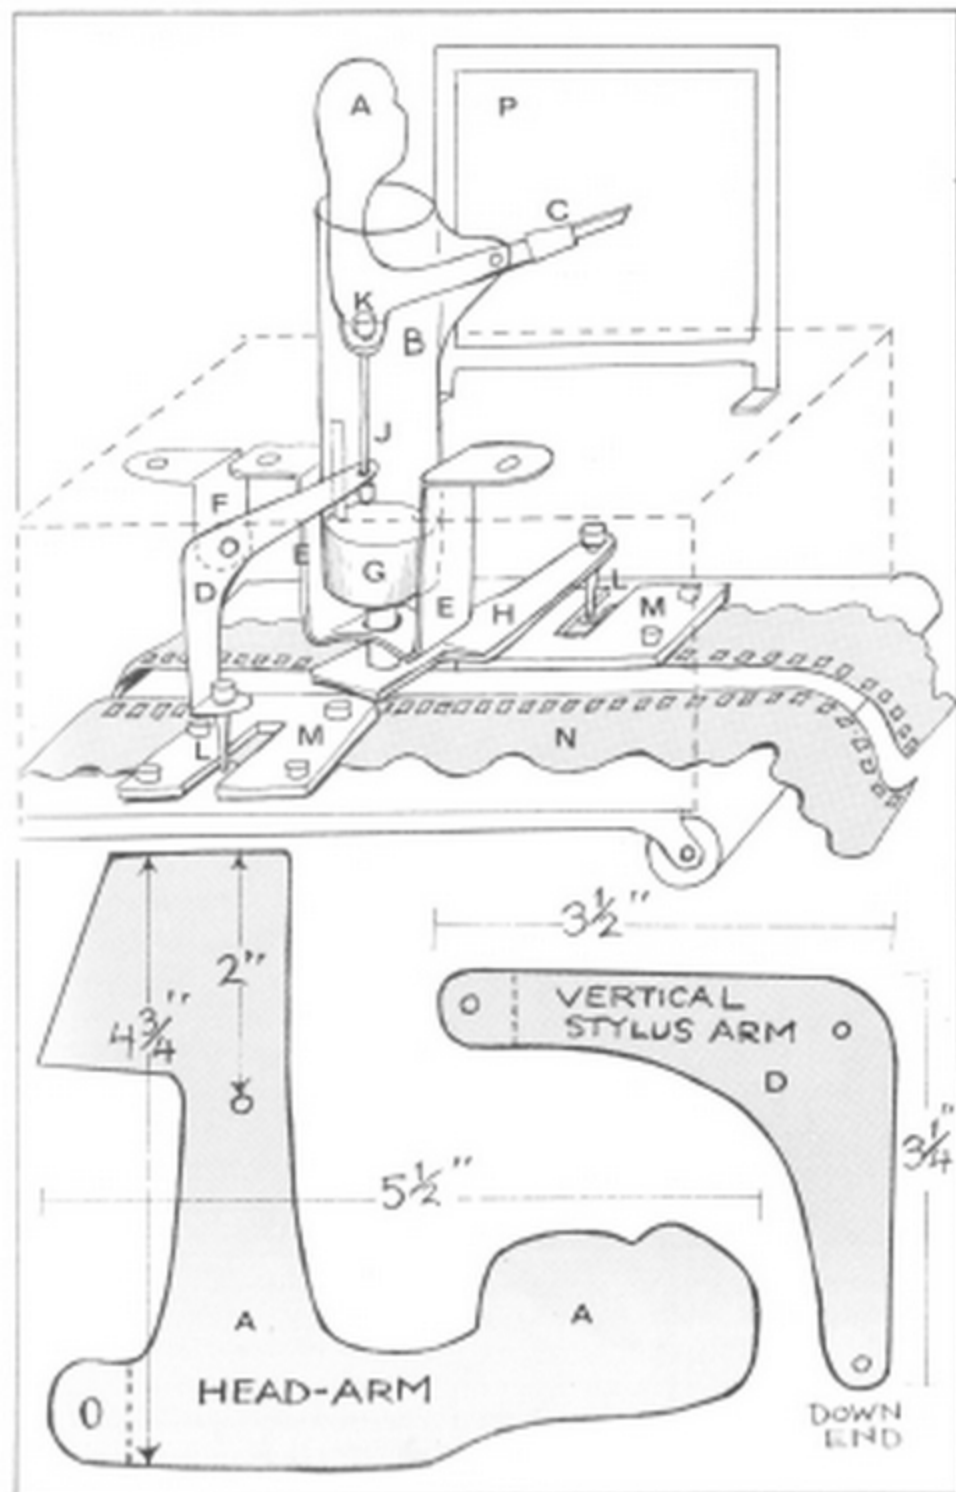
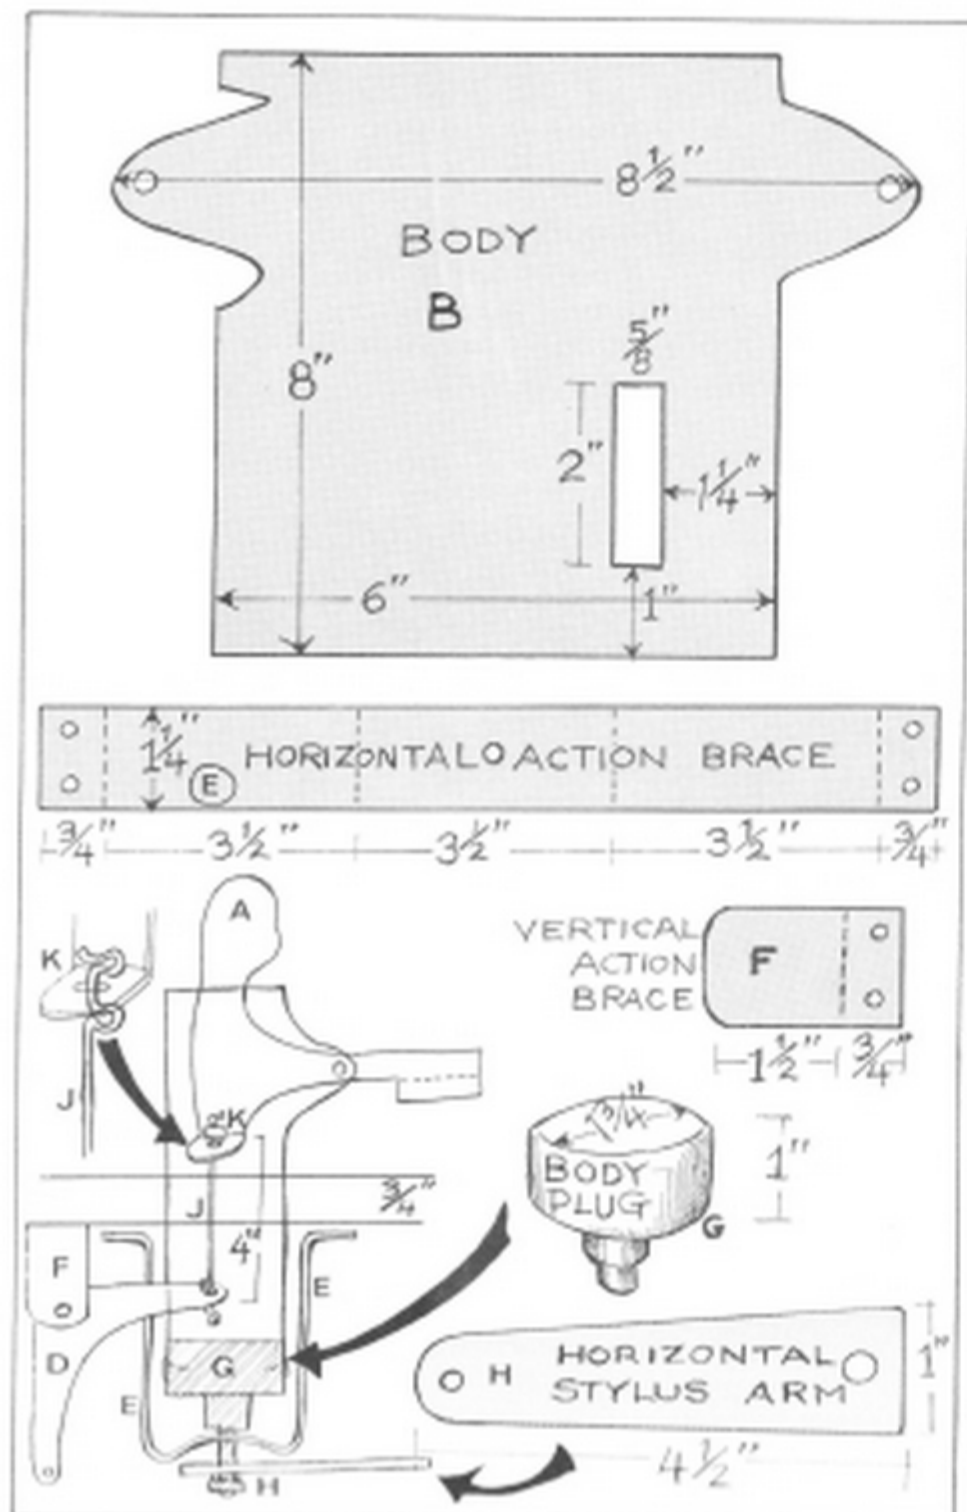

Figure 24
Figure 25
Study Figures 23, 24, and 25. (The mechanism in Figure 24 is more elaborate than necessary. It includes a means of "automatically" driving the machine with strips of 35 mm film (*N*) pulled by hand or by hand crank. This part of the machine can be left out, as we shall see.)
As shown in Figure 23, the basic mechanism centers on a tubular body thrusting up through a hole in the platform. Installed in the body (refer to Figure 24, *B*) is the head-arm piece (*A*) with a felt-tipped pen at its arm end (*C*). This head-arm piece is connected inside the tube at point *K* with a lift rod (*J*). *J* is attached to the vertical stylus arm (*D*). The stylus arm exits from the tube through a slit and swivels on a machine bolt that attaches it to the vertical action brace (*F*). When moving vertically—up and down—this stylus arm influences
Thus, by a combination of vertical and horizontal movements, the pen can be made to write or draw on the easel (P). Straight up-and-down and side-to-side strokes are easy; circles take a more practiced coordination of the two directions of movement. The stylus arms are most easily moved by hand. They can be made to move with the film mechanism (Figure 24, L, M, N), but direct manual manipulation is much easier to achieve and perfect.
First, prepare the aluminum parts by drawing them on paper. Follow the shapes and dimensions indicated in Figures 24 and 25 (*A, B, D, E, F, and H*). Carefully cut out the paper templates, arrange them on the sheet aluminum, and draw their outlines with a fine felt-tipped pen. Keep the dimensions as faithful to the originals as possible. Use light emery paper to sand the edges smooth; then use a hand or leather punch, or a drill, to make the various holes.
Prepare the lift rod (*J*) from a length of medium-gauge wire or wire from a coathanger. Use needle-nosed pliers to prepare both ends of the wire, as shown in Figure 25 (*K*) so that it will exert force at point *K*, whether pulled upward or downward by the vertical stylus arm (*D*).
Attach the lift rod (*J*) to the head-arm piece at point *K* (refer to close-up detail of this in Figure 25). Next, bend the body sheet into its tubular form and slide it into the 2" hole in the platform. From this point on, you will have to work with the tubular body in position in the slab hole, because once the lift rod is attached to the stylus arm, you will not be able to insert the body through the hole.
Next, bend the horizontal action brace (Figure 25, *E*) on the four broken lines to form the bracket shape shown in Figure 24. Drill out a center hole, then install it up against the middle dowel of the body plug (*G*) so that it supports the bottom of the tubular body. Screw or bolt it to the underside of the platform slab, as shown in Figures 23 and 24.
The horizontal stylus arm (Figure 25, *H*) can now be attached to the lower dowel of the body plug (*G*) by compression of a screw in the end of the dowel or with epoxy glue. It must be firmly and permanently attached. When the arm is moved, the tubular body will be twisted, imparting a left-right direction to the pen above.
You are now ready to install a felt-tipped pen at the end of the arm (Figure 24, *C*). Wrap the aluminum tab around the pen and, if necessary, secure it with a length of surgical tape.
Next, install the easel (*P*) on the platform in the position shown in Figures 24 and 26. Glue, tape, or tack a sheet of absorbent paper (not slick or coated) to the easel. The easel's legs should be secured with small jewelry box hinges, that will allow the easel to lean toward the automaton body and pen. A light spring or rubber bands should be attached to the front of the easel to cause it to lean toward the pen. The amount of tension in the spring or rubber bands will have to be adjusted with practice. If there is too little tension, the pen will not make marks on the paper; if there is too much tension, the pen will not be able to move.
As suggested in Figure 24, the basic mechanism may be elaborated with the addition of a stylus (*L* and *L*) to the vertical and horizontal operating arms as well as two flat pressure plates (*M* and *M*) to hold down two film strips but with scissors in wavelike configurations. As these film strips are drawn through the bottom of the machine by hand or by hand crank, their serrated edges push the stylus arms forward and back, and convey these eccentric movements upward through the mechanism to the head-arm and from there to the pen. The pen then writes in accordance with the eccentricities along the film edges.